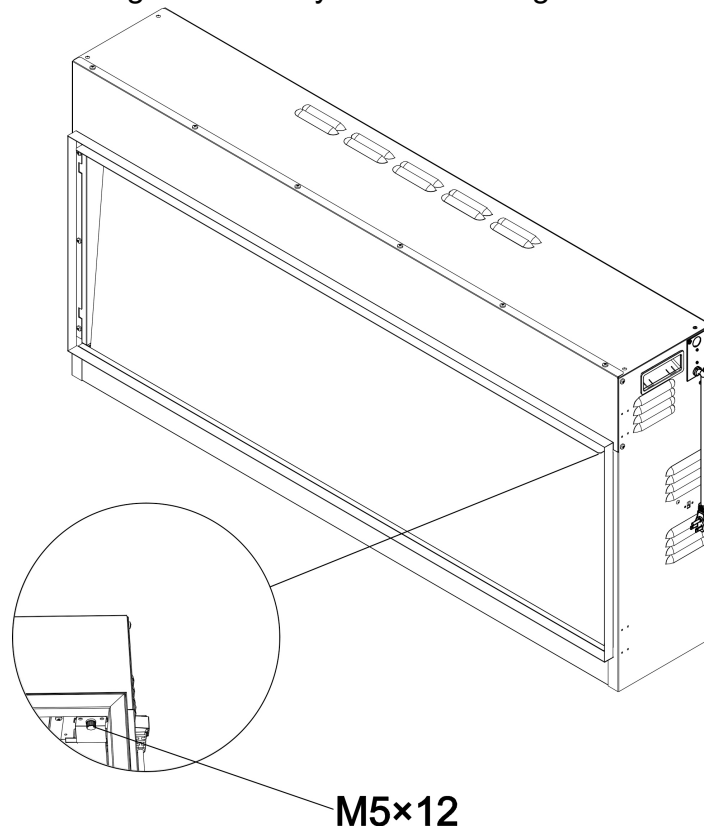

Figure 4
- Take out the trim gently, take out the screw M5*12 on both sides, and use glass hook to take out the glass carefully as shown in figure 4 and figure 5.